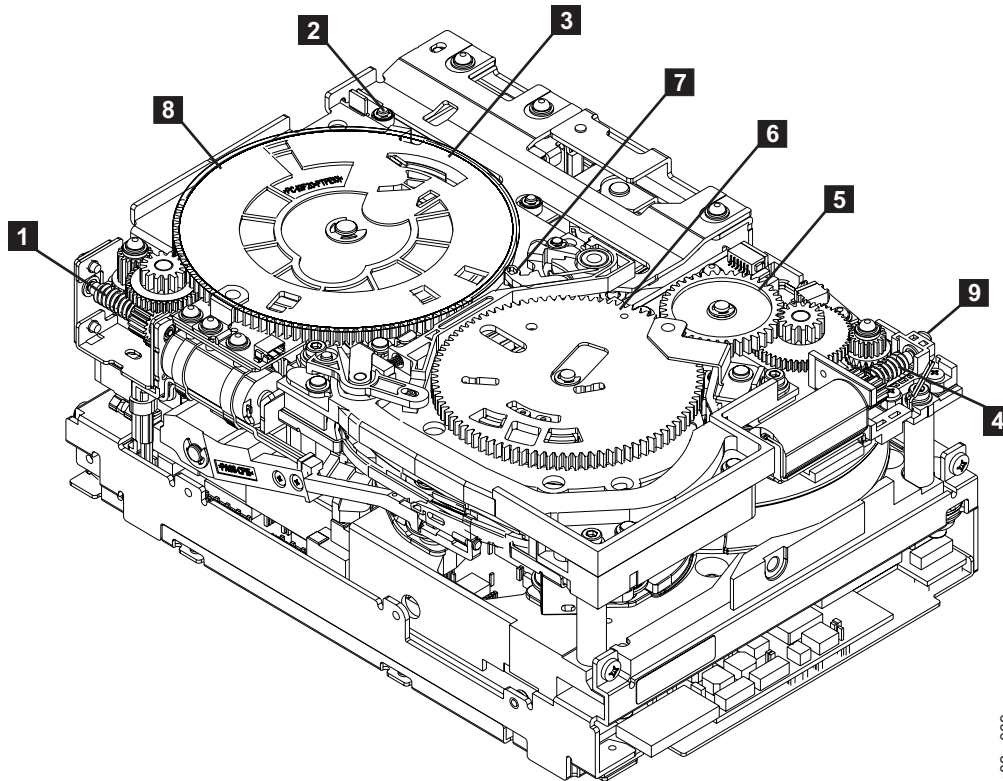
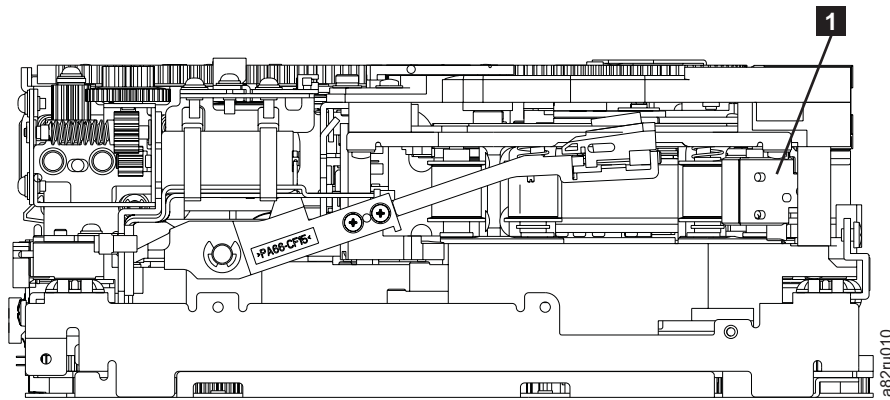

Figure 13. Drive with cover removed to reveal gear train.
Figure 14. Leader Block Assembly (LBA)
- \_\_\_ 3. Locate the threader motor worm gear (**4** in Figure 13) the rear of the drive. You can either:
- a. Use your finger to rotate the threader motor worm gear and slowly rotate the threader mechanism gear (**6** in Figure 13) clockwise; or
- b. Use a #1 flathead screwdriver to turn the threader worm gear (**9** in Figure 13) clockwise.
This rotates the threader motor worm gear (**4** in Figure 13) clockwise, drawing the tape leader block assembly (LBA) into the cartridge.
- \_\_\_ 4. As the LBA is secured in the cartridge, you should hear the LBA retention spring clips click into place. If you do not hear the click, continue rolling until the threader motor worm gear (**4** in Figure 13) stops. The LBA is in the correct position.
- a. Loader mechanism gear ( **8** in Figure 13 on page 18) nearest the front of the drive that actuates the cartridge loader mechanism
- b. Position of the rotator stub ( **3** in Figure 13 on page 18).
- c. Front loader motor worm gear ( **1** in Figure 13 on page 18). Rotating this gear allows the loader mechanism gear ( **8** in Figure 13 on page 18) to turn.
- \_\_\_ 6. Rotate the loader motor worm gear ( **1** in Figure 13 on page 18) to turn the loader mechanism gear ( **8** in Figure 13 on page 18) counterclockwise. Continue turning until the rotator stub ( **3** in Figure 13 on page 18) loses contact with the lever ( **7** in Figure 13 on page 18). This releases the LBA leader pin.
- \_\_\_ 7. Rotate the threader motor worm gear ( **4** in Figure 13 on page 18) to turn the threader mechanism gear ( **6** in Figure 13 on page 18) counterclockwise. This moves the LBA out of the cartridge and past the read/write head. Stop this rotation when the LBA is near the tape guide roller nearest the rear of the drive ( **1** in Figure 14).
- \_\_\_ 8. Continue rotating the loader motor worm gear ( **1** in Figure 13 on page 18) until the rotate stub ( **3** in Figure 13 on page 18) is positioned as shown. Notice that the rotator stub ( **3** in Figure 13 on page 18) is nearly aligned with the cartridge loader tray guide bearing ( **2** in Figure 13 on page 18).